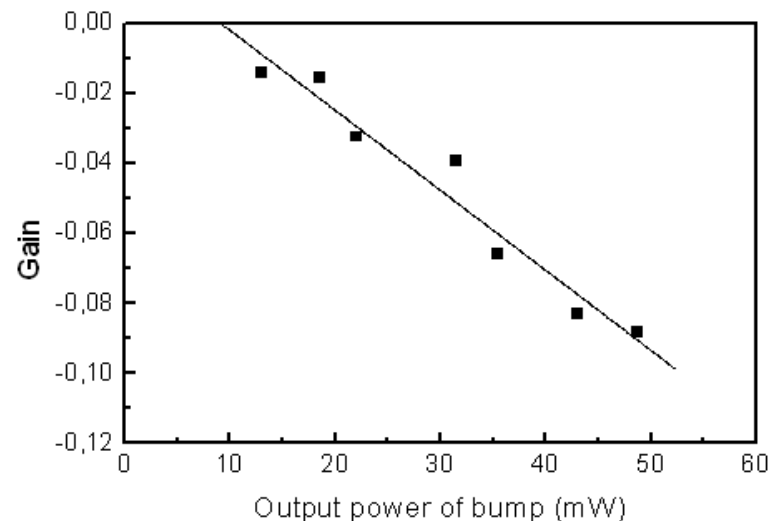
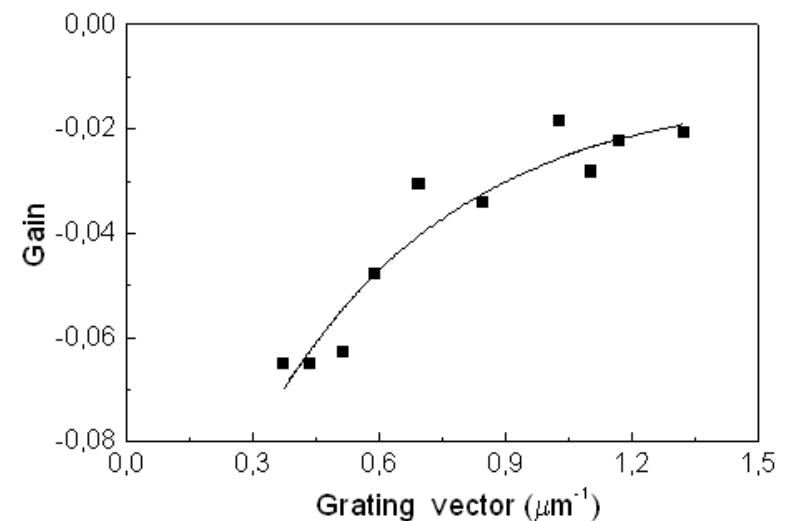

Fig. 2 The gain versus the output power of pump in the semiconductor amplifier.
Fig. 3 The gain versus the grating vector in the semiconductor amplifier.
The dependence of the gain on the output power of the pump is measured. The experimental results are shown in Fig. 2. It is clearly seen that the gain decreases linearly with the output pump power. The dependence of the gain on the angle between the two beams is also measured. The experimental results are shown in Fig. 3. By fitting the data with Eq. (5) Assuming that τ is 5 ns, the diffusion coefficient D is calculated to be $8.2 \text{ cm}^2\text{s}^{-1}$.